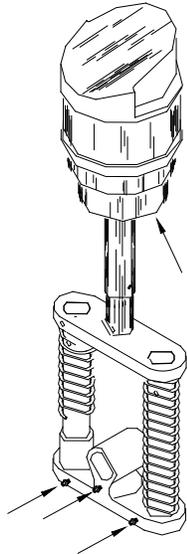

FIGURE 2
THE PISTON AND SPRING LOAD ASSEMBLY HAVE A TOTAL OF (4) GREASE FITTINGS, (FIG. 2). THREE (3) OF THESE FITTINGS ARE FOUND ON THE LOWER CASTING OF THE SPRING LOAD. APPLY A SMALL AMOUNT OF GREASE TO THESE FITTINGS ONCE A WEEK. THE SAME PROCEDURE SHOULD BE FOLLOWED FOR THE GREASE FITTING UNDER THE PISTON, THIS FITTING IS LOCATED ON THE TOP OF THE OUTSIDE CONNECTING ROD, (PART NO. 322PY – SEE PAGES 30 & 31).